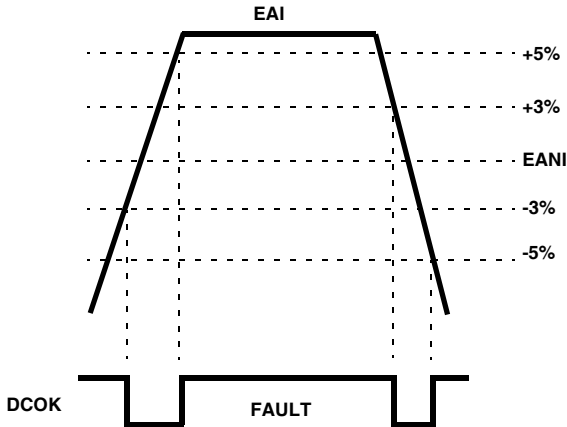

FIGURE 14. UNDERVOLTAGE-OVERVOLTAGE WINDOW
- DCOK pin is an open-drain output capable of sinking 5mA. It is low when the output voltage is within the UVOV window. The static regulation limit is  $\pm 3\%$ , while the  $\pm 5\%$  is the dynamic regulation limit. It indicates power-good when the EAI is within  $-3\%$  to  $+5\%$  on the rising edge and within  $+3\%$  to  $-5\%$  on the falling edge, as shown in Figure 14.